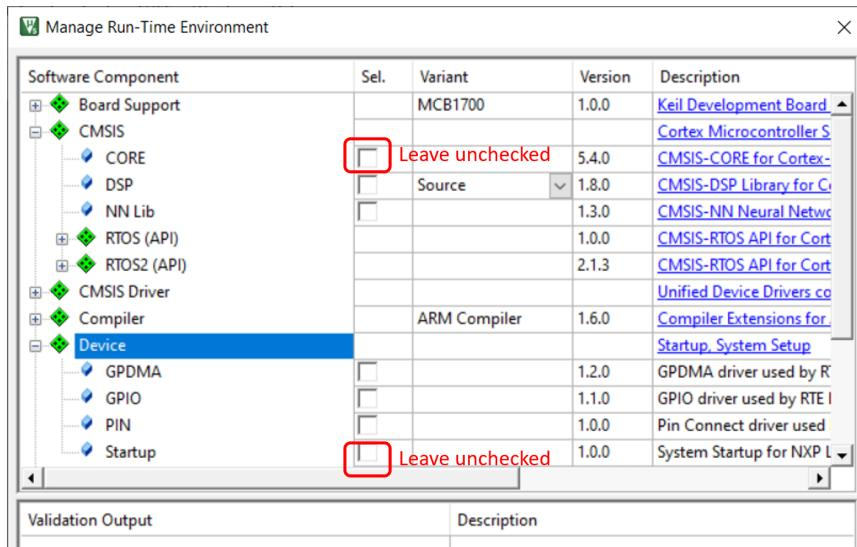

Figure 8.39: Directory Structure of a Multi-Project Workspace. The HelloWorld directory layout is omitted.
To create a new library uVision project, we follow the same steps of creating the new HelloWorld uVision project. Aside from giving the project a different name, the big difference is that when asked for configuring the run-time environment, do not select anything, directly click the OK button (see Figure 8.39). Here are the steps.
- Do not select anything in the “Manage Run-Time Environment” pop-up window. Directly click the OK button. Compared with the HelloWorld application creation, the difference is that we should leave the CORE and Startup checkbox unchecked, which is the default setting (see Figure 8.39).